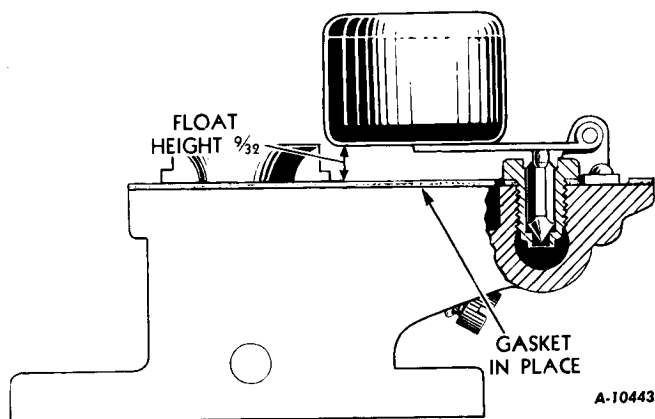

Fig. 21 - Dimensions for Measuring Fuel Level and Position of Float of Marvel Schebler Carburetor
11. Install the fuel valve (9) and washer (8). Insert the fuel valve into the seat.
12. Place the venturi (37) in the throttle body (30) with the large opening toward the throttle. Put the body-to-bowl gasket (34) in place.
13. Position the float (11) and install the float axle (10). Check float for free movement.
14. With the throttle body inverted, set the float height (Fig. 21).